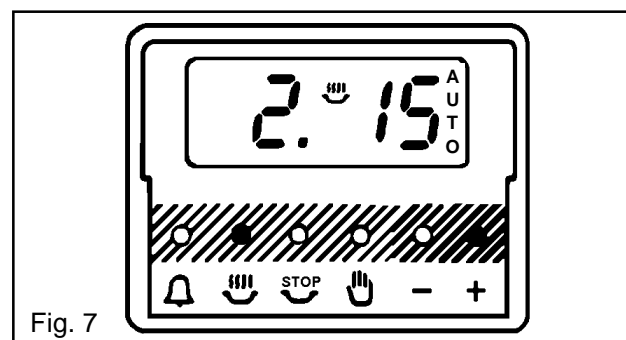

Fig. 7
- iii) To set the length of cooking time, press the cooking hours button (🕒) press the increase control ( + ) until the required length of cooking time is displayed, e.g. 2 hrs 15 mins as Fig. 7. If necessary depress the decrease control ( - ) until the correct time interval is achieved.